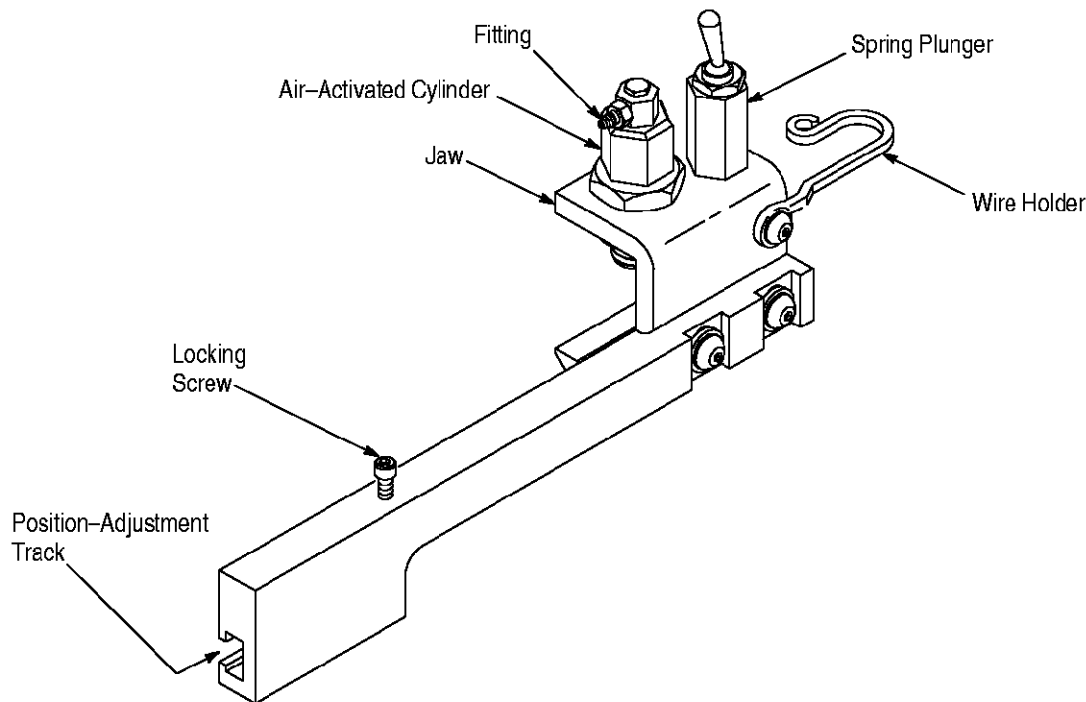
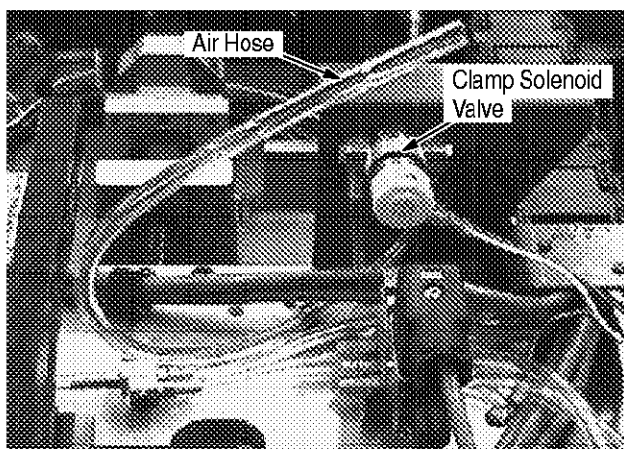

Figure 1
Figure 3
90-Degree Cable Clamp Assembly 1424030-1 is designed to be used in CHAMPOMATOR* 2.5 Bench Terminating Machine 762734-[]. The machine must be equipped with a clamp solenoid valve (shown in Figure 3) and a controller having software at Rev. 3.03.05 or later. To use the machine without these requirements, use 90-Degree Cable Clamp Assembly 768802-1 and follow the instructions packaged with that cable clamp.
2. DESCRIPTION (Figure 1)
5. On the machine, plug the air hose from the clamp solenoid valve (see Figure 3) onto the fitting of the cable clamp (refer to Figure 1).
Figure 4 lists the items that are recommended as customer-replaceable parts. These items should be inspected regularly. Customer-replaceable parts should be stocked to prevent machine downtime in the event that they require replacement. For location of the items for the cable clamp, refer to Figure 1. For location of the air hose and clamp solenoid valve, refer to Figure 3.